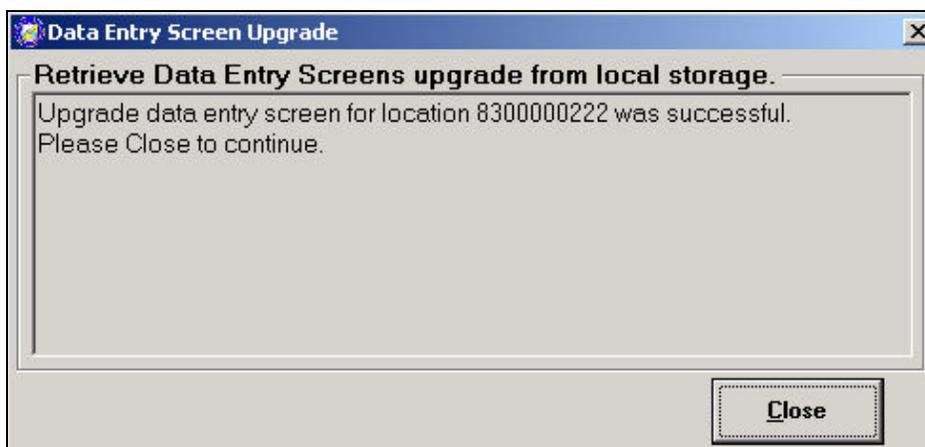

Figure 6.10.12
2. Click 'Close'. The 'Retrieve Data Entry Screen From Local Storage' window opens (Figure 6.10.12)